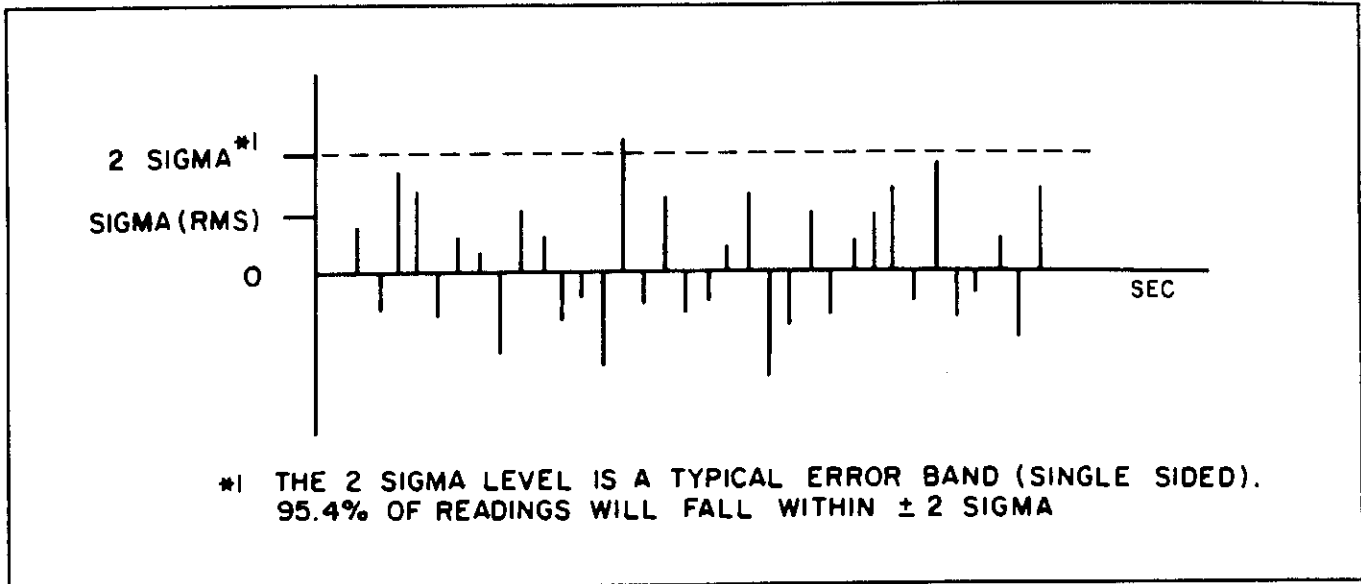

Figure 4-9. Typical Error Band Specification
2. **Error Computation.** Since the noise is Gaussian, both before and after filtering, statistics show what level of confidence factor can be associated with a given reading. (At medium or high power levels, the confidence factor is essentially unity.) Figure 4-9 shows a typical set of samples and a typical error band specification of 2 sigma. 95.5% of the readings will fall within  $\pm 2$  sigma.